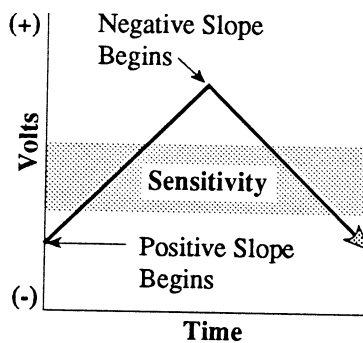

Figure 2 - The signal must begin outside the Sensitivity window.
3. The signal must begin outside the Sensitivity Window (except for Dual Slope triggering, Figure 6) and completely pass through the window with the proper slope (Figure 2). See page 13-7.